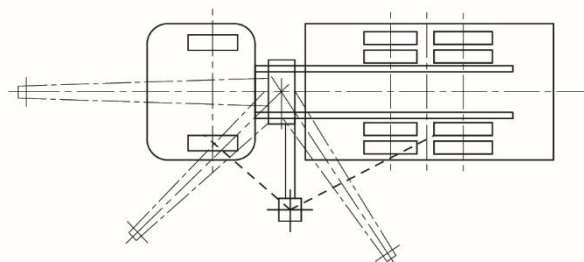

Figure 10: VMLS behind cab — positions where stability is to be considered
- Where the VMLS is offset to one side, typically the worst-case loading scenario will be towards the side of the vehicle where the VMLS is installed. For guidance, see Figure 10.